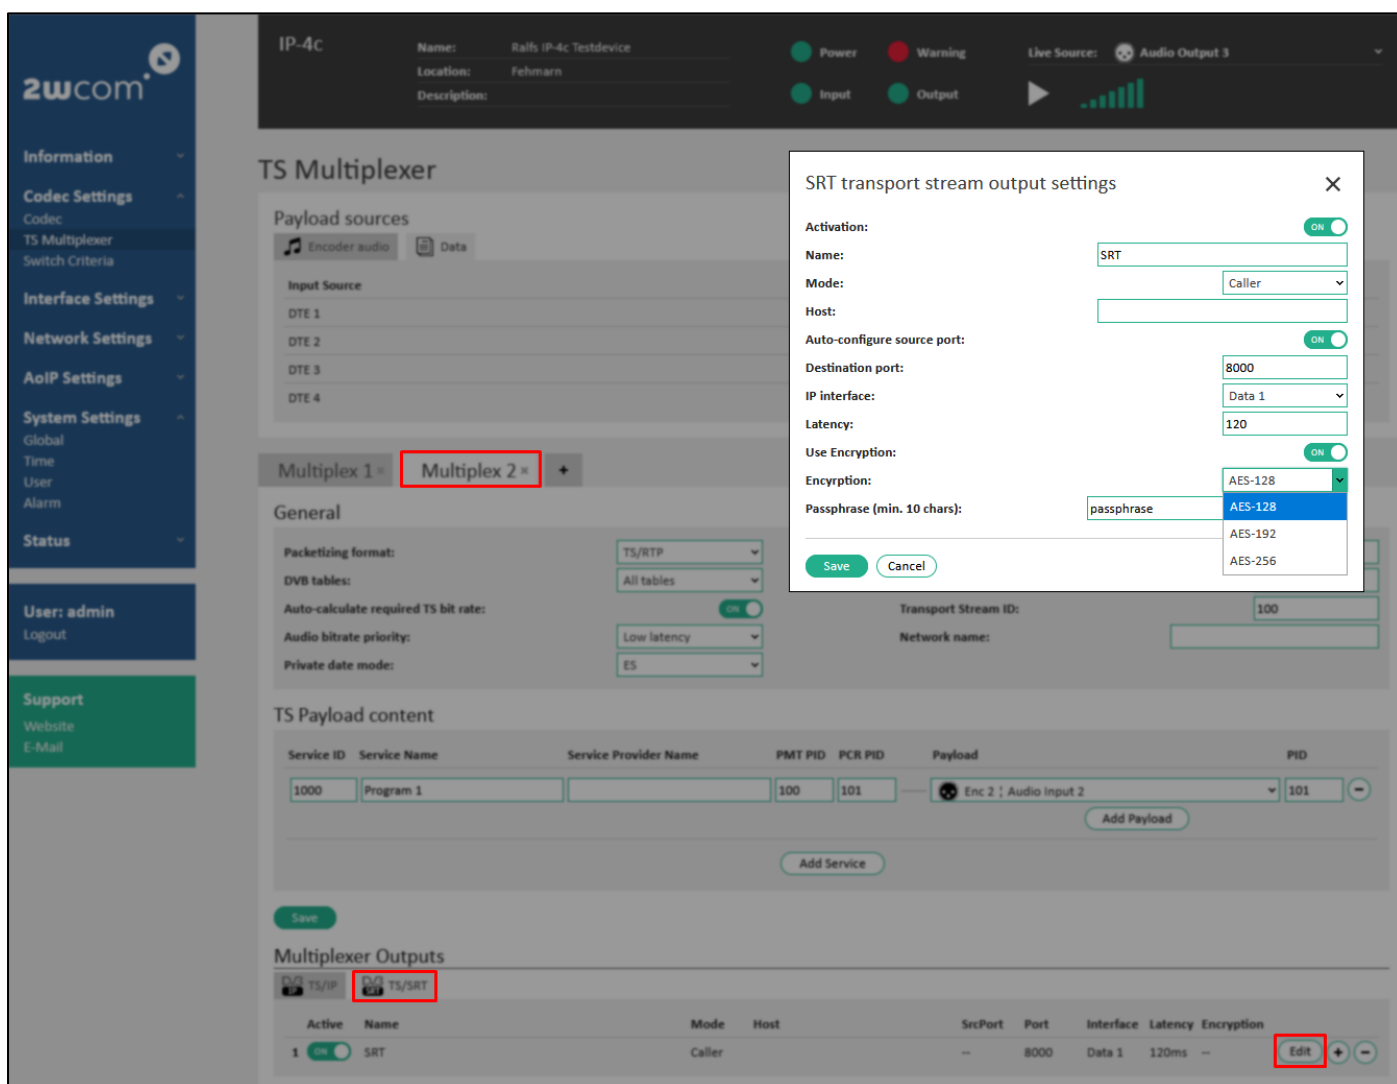

Figure 31: Edit output TS/SRT
6. Enter the following data in the fields of the configuration of one **TS/SRT** destination in the “Edit” menu of the “TS/SRT” tab (see **Figure 31**):